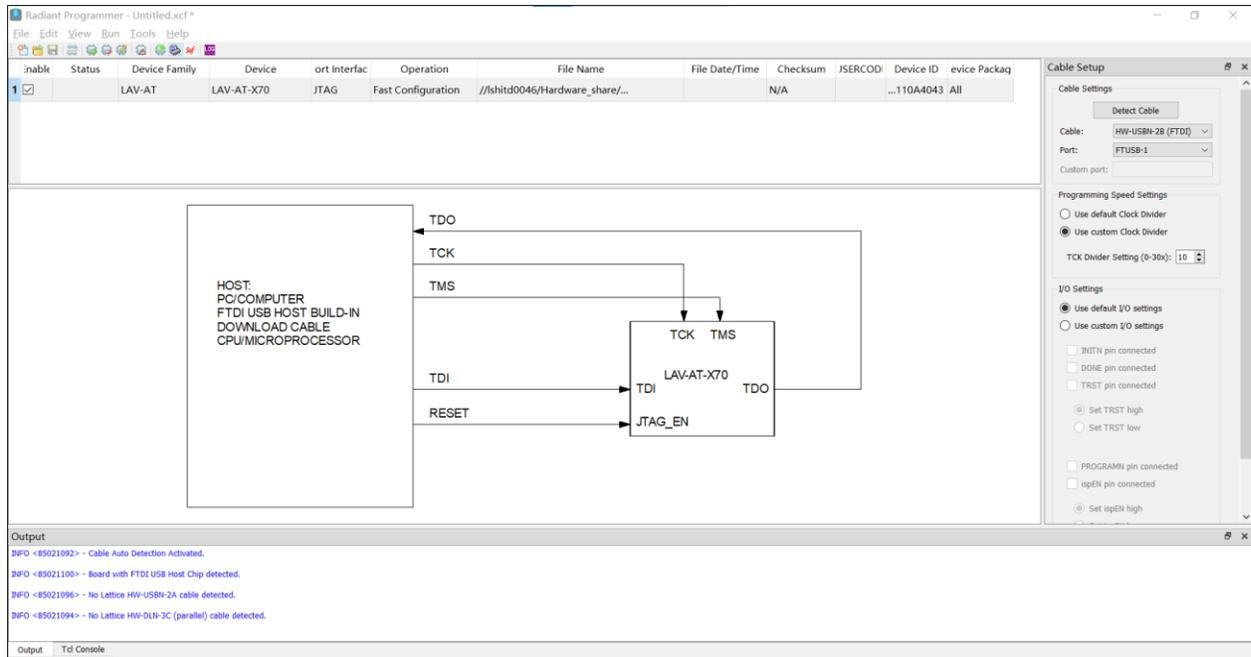

Figure 4.2. Radiant Programmer
4. The Radiant Programmer interface opens as shown in Figure 4.2. Select FTUSB-1 Port in the cable Setup filed.